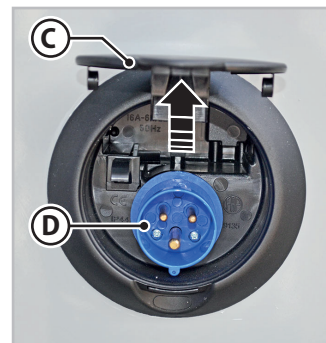

Fig. 6.33 - 220 V power supply socket
2. Lift the cover (**C** - Fig.6.33) of the socket (**D** - Fig.6.33) located on the side of the vehicle.
3. Connect an external cable of an appropriate size and approved type to the socket (**D** - Fig.6.33).